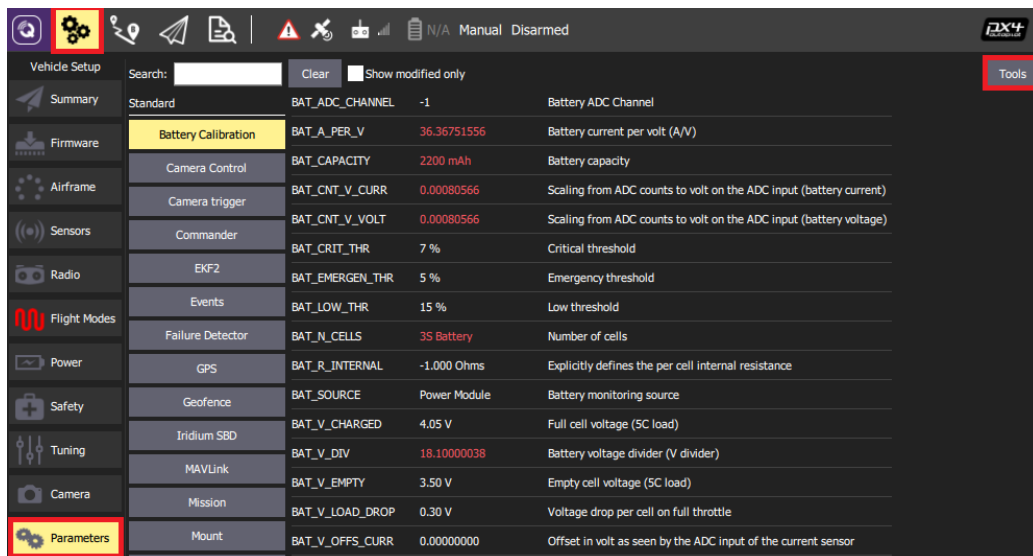

Figure 17: QGroundControl Interface to Load Parameters from File.
2. **Resetting the Parameter Configuration:** Connect the Pixhawk to the user's computer and open QGroundControl. Go to the `Vehicle Setup` view, select the `Parameters` option, and click the `Tools` button on the right side (see Fig. 17). Then choose "Load from file". Navigate to the USB Stick and choose the file `parameters_UAXS.params`. Finally, restart the Pixhawk by unplugging the power connection and reconnecting.